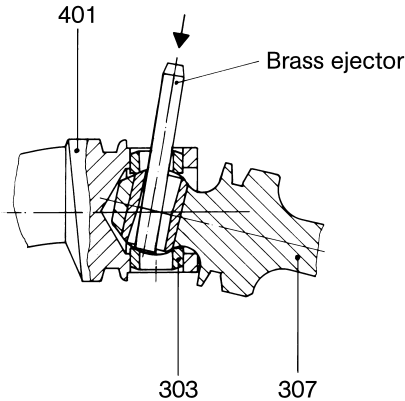

Figure 3: Dismounting the bushes for coupling rod pin.
- Eject coupling rod pin (301).
- By means of a brass ejector, drive out the two guide bushes (303) by one half. For these purposes, incline coupling rod (307) (please refer to Figure 3 below).